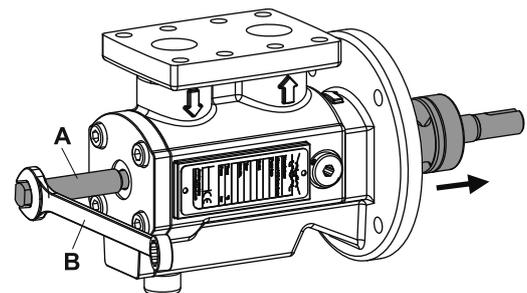

Fig. 8
2. Screw in the disassembly tool A by using the open-end wrench B, see Fig. 8. The main screw will be pressed out of the pump housing. Remove the main screw from the pump housing.